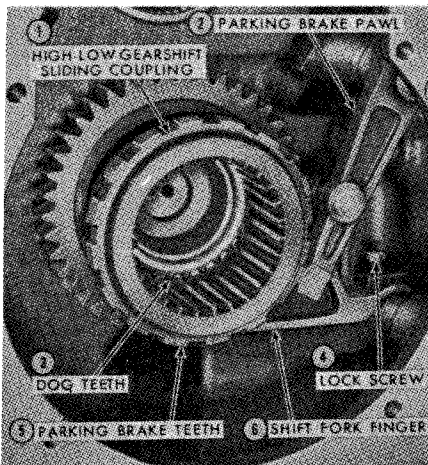

Fig. 161—View of rear end of transmission with output shaft and secondary countershaft removed. Note brake pawl engaged with high/low sliding coupling.
bearing cup (49) in rear end of main countershaft (47). Place high-low shift fork (25—Fig. 157) on pin in transmission brake pawl (23), then insert shift rail (55) and fork retaining set screw (24). Align single indentation in shaft with screw, then tighten screw and locknut to 23-30 ft.-lbs. on Models TW-10, TW-20 and TW-30 and 12-18 ft.-lbs. on all other models. Install detent ball (56), spring (57) and retaining plug (59) with new gasket (58). Place high-low sliding coupling (51—Fig. 160) in fork with brake teeth to rear, then shift coupling forward to engage with dog teeth on main countershaft (47). Refer also to Fig. 161.